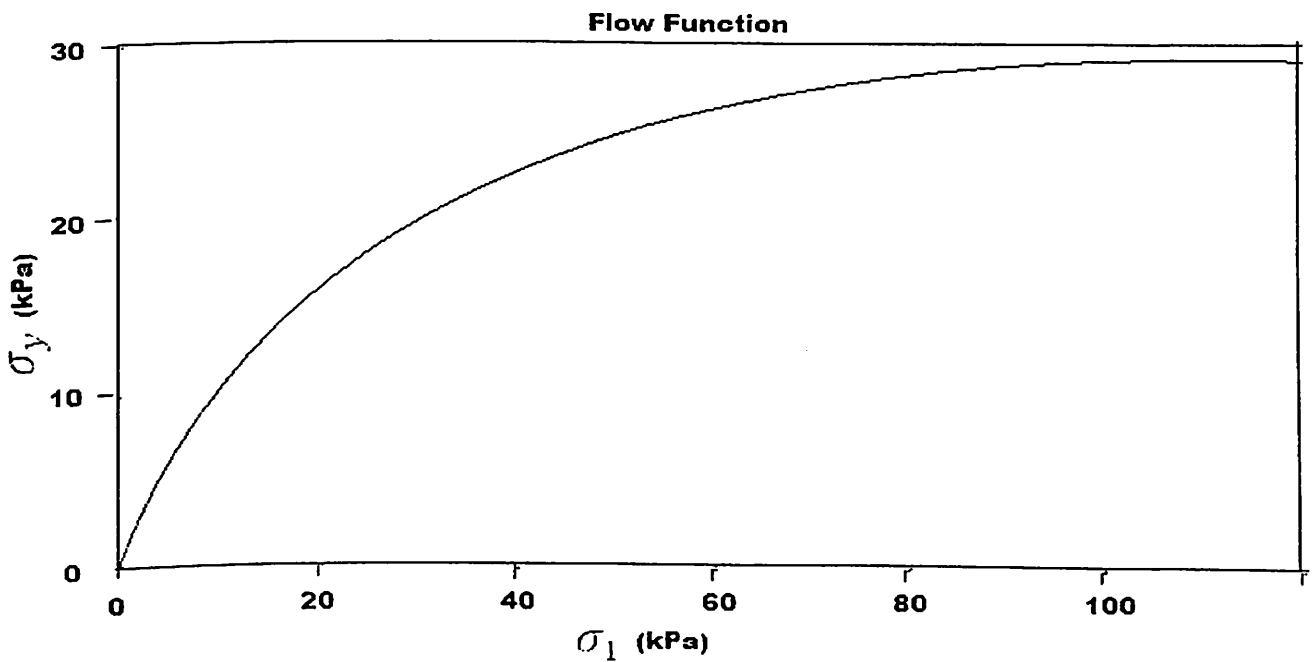

Figure 1 – Flow function
- d) You are required to design a bin/hopper to hold 150 tonnes of bulk solids as surge capacity whose bulk density is 2000kg/m^3 and the flow-property is shown by figure 1 below. Assuming that the anticipated design type is mass-flow, the critical flow factor (ff_c) is 1.0, hopper type is conical with hopper angle of 20° , and the anticipated bin width of 3.5m, specify the bin/hopper design dimensions.
Hint; calculate the discharge outlet diameter using the flow function shown by figure 1 first. Useful formula: